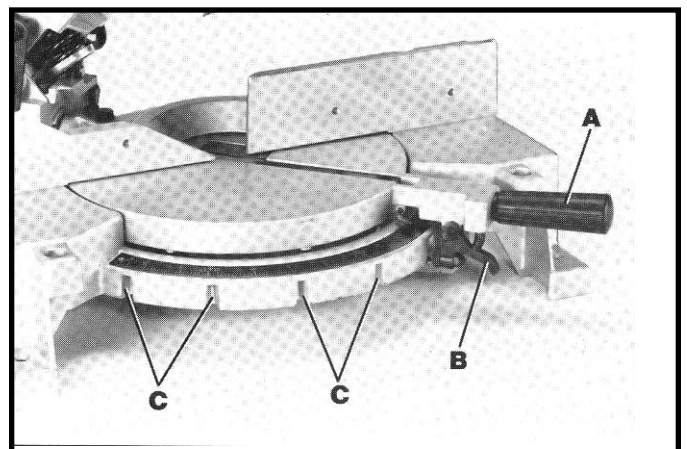

Fig. 15
Your miter box will cut any angle from a straight 90 degree cut to 49 degrees right and left. Simply loosen lock handle (A) Fig. 15, pull out plunger trigger (B) and move the control arm to the desired angle. **THEN TIGHTEN LOCK HANDLE (A).**
The miter box is equipped with positive stops at the 0, 22-1/2 and 45 degree right and left positions. Simply loosen lock handle (A) Fig. 15, and move the control arm until the plunger engages into one of the five positive stops, four of which are shown at (C). **THEN TIGHTEN LOCK HANDLE (A).** To disengage the positive stop, pull out plunger trigger (B). If adjustment to the positive stops is necessary see section titled **"ADJUSTING TABLE POSITIVE STOPS."** In addition, a triangle indicator is provided on the miter scale at the 31-5/8 right and left miter positions for cutting crown moulding. Refer to the **"CUTTING CROWN MOULDING"** section of this manual.
IMPORTANT: ALWAYS TIGHTEN LOCK HANDLE (A) FIG. 15, BEFORE CUTTING.